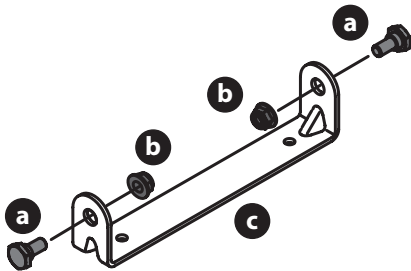

Figure 6
1. Remove the shoulder bolts (a) and lock nuts (b) from the seat mounting bracket (c) included in your hardware pack (Figure 6).